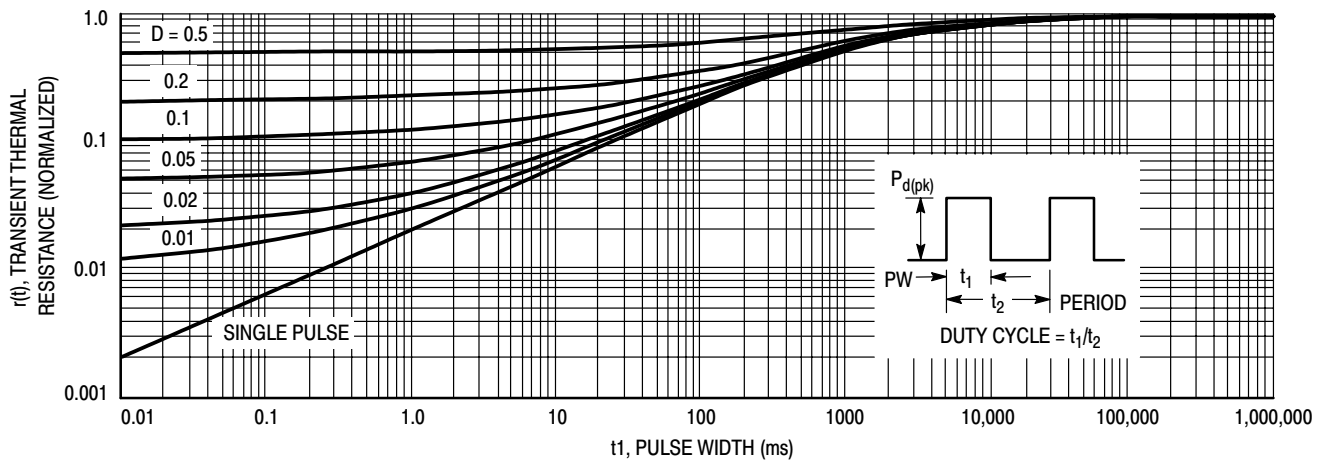

Figure 12. Transient Thermal Response
Figure 12 of the MDC3105LT1 data sheet plots its transient thermal resistance, $r(t)$ as a function of pulse width in ms for various pulse train duty cycles as well as for a single pulse and illustrates this effect. For short pulse widths near the left side of the chart, $r(t)$, the factor, by which the continuous duty thermal resistance is multiplied to determine how much the peak power rating can be increased above the average power rating, approaches the duty cycle of the pulse train, which is the expected value. However, as the pulse width is increased, that factor eventually approaches 1.0 for all duty cycles indicating that the pulse width is sufficiently long to appear as a continuous duty condition to this device. For the MDC3105LT1, this pulse width is about 100 seconds. At this and larger pulse widths, the peak power dissipation capability is the same as the continuous duty power capability.
To use Figure 12 to determine the peak power rating for a specific application, enter the chart with the worst case pulse condition, that is the max pulse width and max duty cycle and determine the worst case $r(t)$ for your application. Then calculate the peak power dissipation allowed by using the equation,
Thus for a 20% duty cycle and a PW = 40 ms, Figure 12 yields $r(t) = 0.3$ and when entered in the above equation, the max allowable $Pd(pk) = 390$ mW for a max $T_A = 85^{\circ}C$.
2. For pulsed operation, use the Transient Thermal Response of Figure 12 and the instructions with it to determine the maximum limit on transistor power dissipation for the desired duty cycle and temperature range.